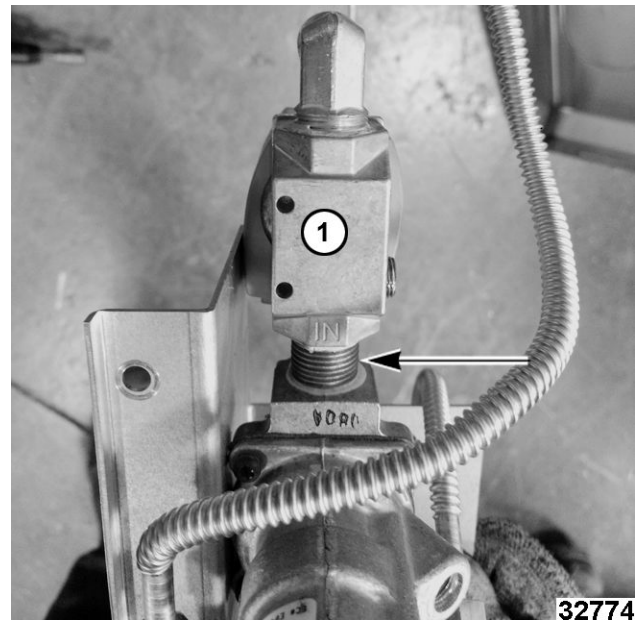

Fig. 42
3. Remove solenoid (1, Fig. 42) from pipe nipple.